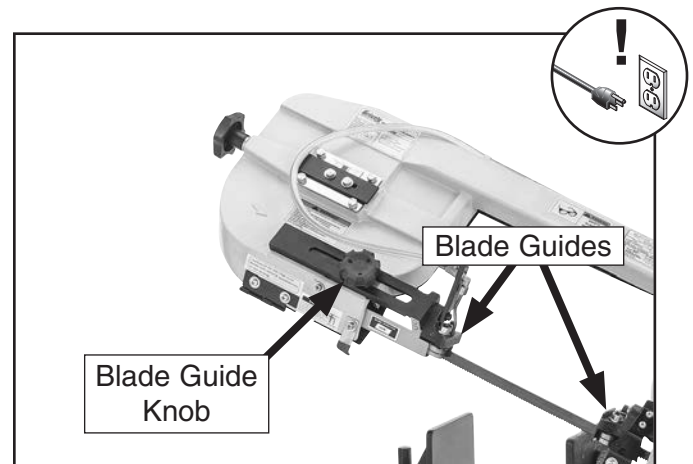

Figure 40. Location of blade guide knob.
2. Loosen blade guide knob shown in **Figure 40**.